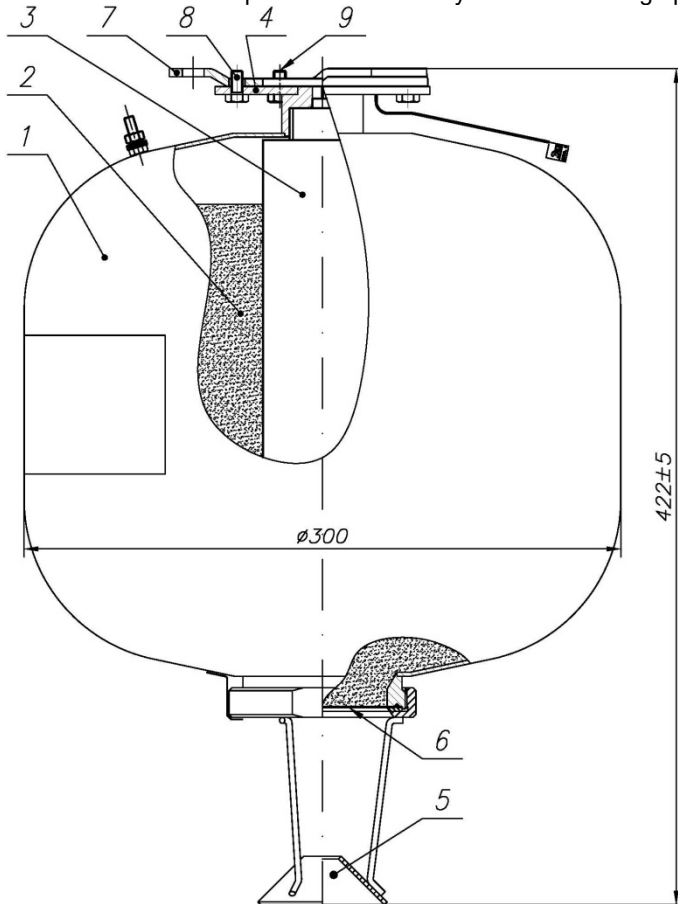

Fig 1. Module Buran-15l arrangement
4.1. A schematic of Buran-15l module is shown in Fig 1. Module represents a hermetically sealed capacity consisting of a steel welded casing 1 filled with extinguishing powder 2. The casing has two orifices that have been welded into the casing perpendicular to each other - one is for incorporating a gas generator 3 and second is for incorporating a membrane unit 6.
6.2. Joint the module holder 4 (Fig. 1) to the bracket 7 in such a way that the heads of the bolts 9 came into the broader parts of module holder channels. Then turn the module around its axis to stop. The bolts herewith come to the narrow parts of the channels and hold the module suspended. Fix the module against its rotation relative to the bracket by the bolt 8. Tighten up the bolts 9.